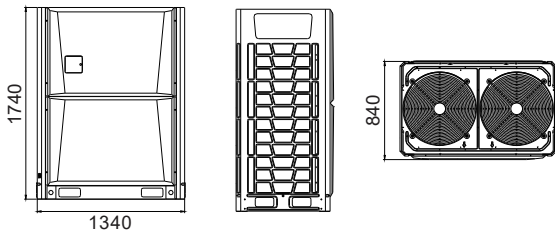

Fig. 3.3 Shape3 (18HP~20HP)
- 1) The master machine shall be installed on a firm cement ground or concrete foundation. The concrete foundation is constructed as per Fig. 3.3, or be constructed with field measuring.